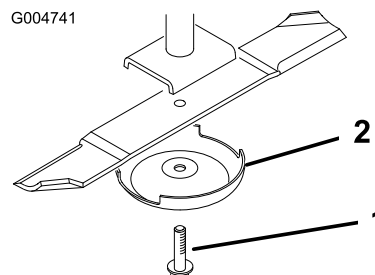

Figure 131
4. Grasp the end of the blade using a rag or thickly padded glove and remove the blade bolt, anti-scalp cup, and blade from the spindle shaft (Figure 131).